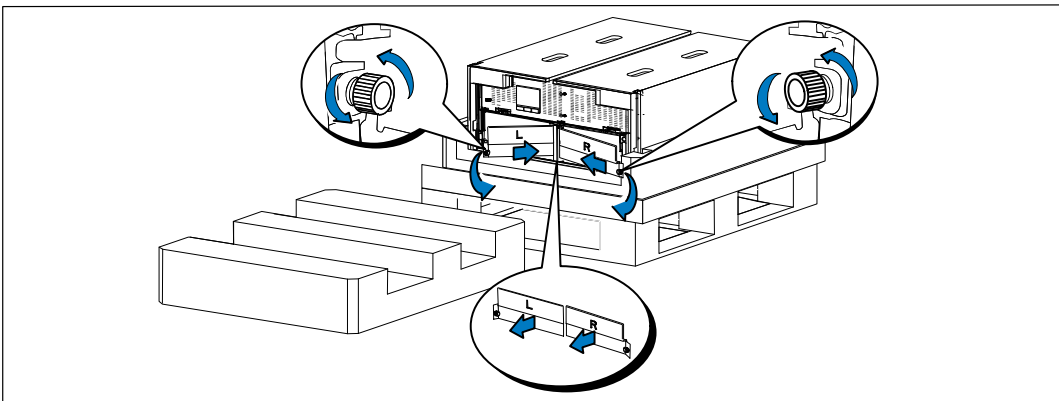

Figure 7. Removing the Battery Retaining Brackets
- 5 Remove both battery retaining brackets from the UPS (see Figure 7):